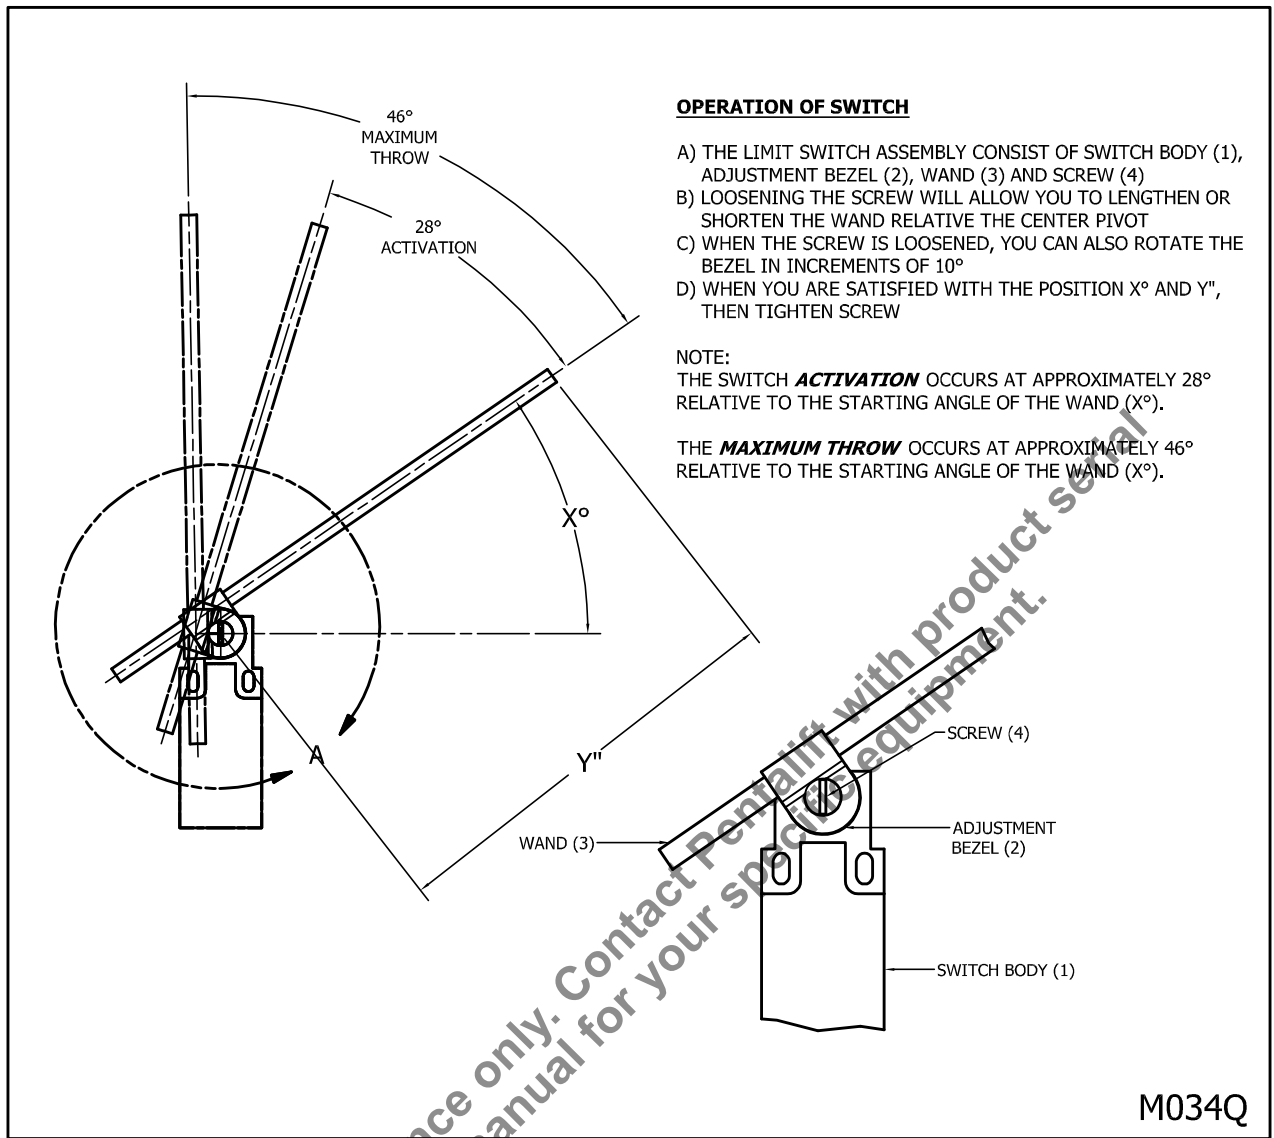

Figure 13: Operation of Switch
The installer must also read the OPERATION OF SWITCH (see "Figure 13: Operation of Switch" on page 20) and become familiar with the adjustment procedures.
10. Review the operation of the switch (see "Figure 13: Operation of Switch" on page 20).